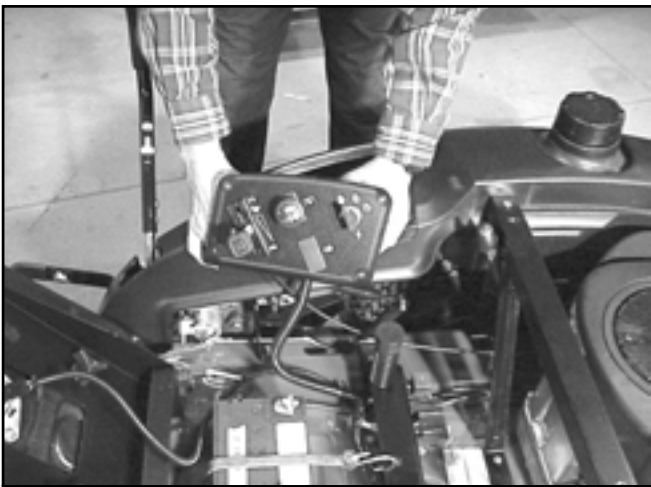

Figure 14
3. Remove the 4 screws on the control panel and move the control panel away from the side panel (Figure 14).